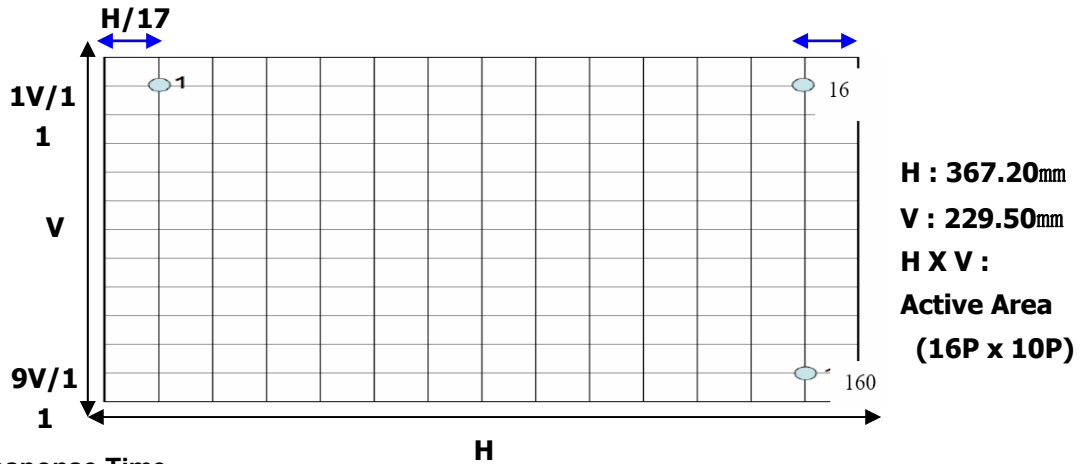

FIG. 3 Response Time
| Response time | TrR + TrD | - | - | 16 | 25 | ms | Fig 3 | |
2. Response time is the time required for the display to transition from white to black (rise time, T_{R}) and from black to white(Decay Time, T_{D}). For additional information see FIG 3.